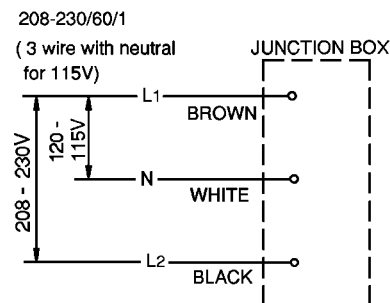

Fig. 5
- On single phase models, the white lead must be connected to the neutral conductor of the power source. Miswiring results in severe damage to the icemaker. See Fig. 5.